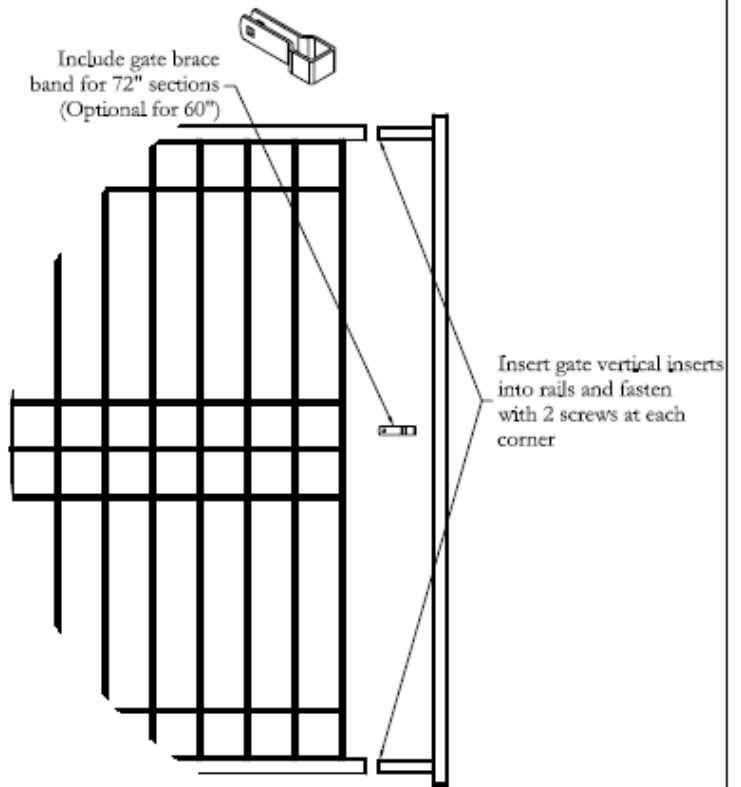

FIGURE 4
2. Attach the verticals of the gate by inserting them into the horizontal rails of the section and fastening with two self-drilling screws at each corner. For 72” high gates, brace bands have been provided for additional horizontal support (Optional for 60” height). Add these to the gate heights before insertion into rails. (See Figure 4.)